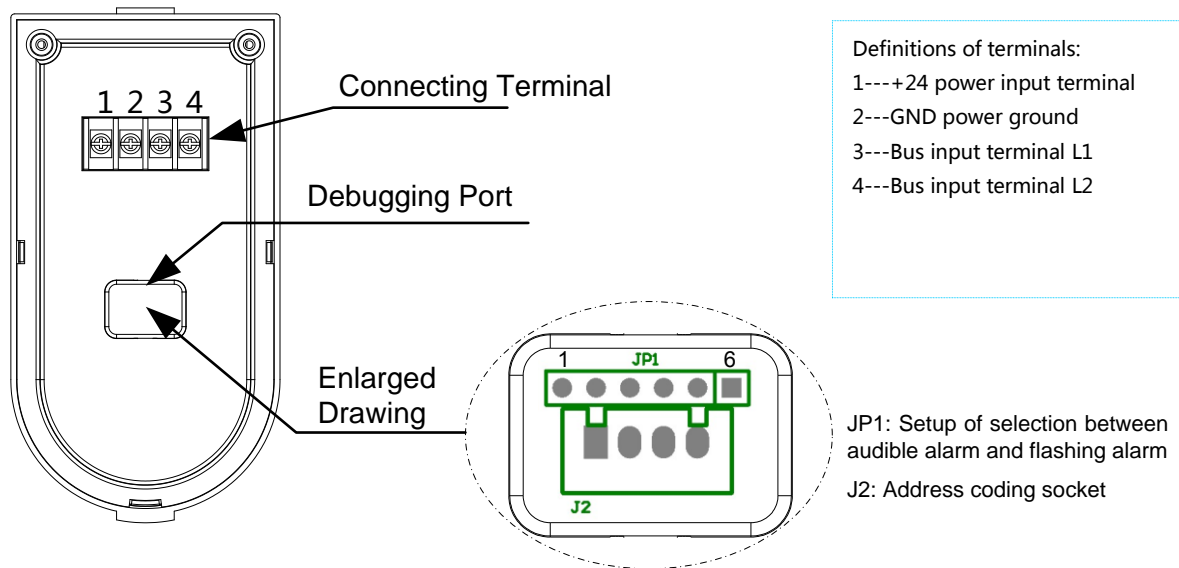

Fig.2
1 Fig.2 is the schematic diagram of the rear cover of the horn/strobe.
- Address coding: When a horn/strobe is coded, it is unnecessary to disassemble the wire connecting it with the host machine; online coding may be done. The specific method is as follows: Open the cover of the coding setup window, insert the output plug (a four-pin connector) of the coder into the address coding socket (the socket J2 in Fig.2) of the horn/strobe, set the coder with the coding function, compile the correct address code and press the RUN key to complete the address coding. (Note: See the User's Manual of the coder for detailed operation information.)